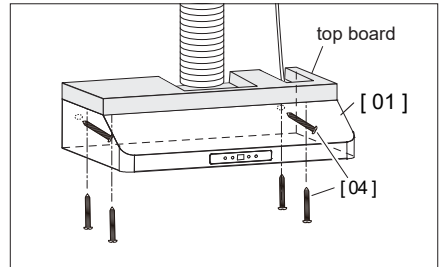

Fig 4
1. Push the **Range Hood [01]** to **top board** and wall and secure with **#8 x 1.49" Screws [04]** from the inside. (Fig 4)